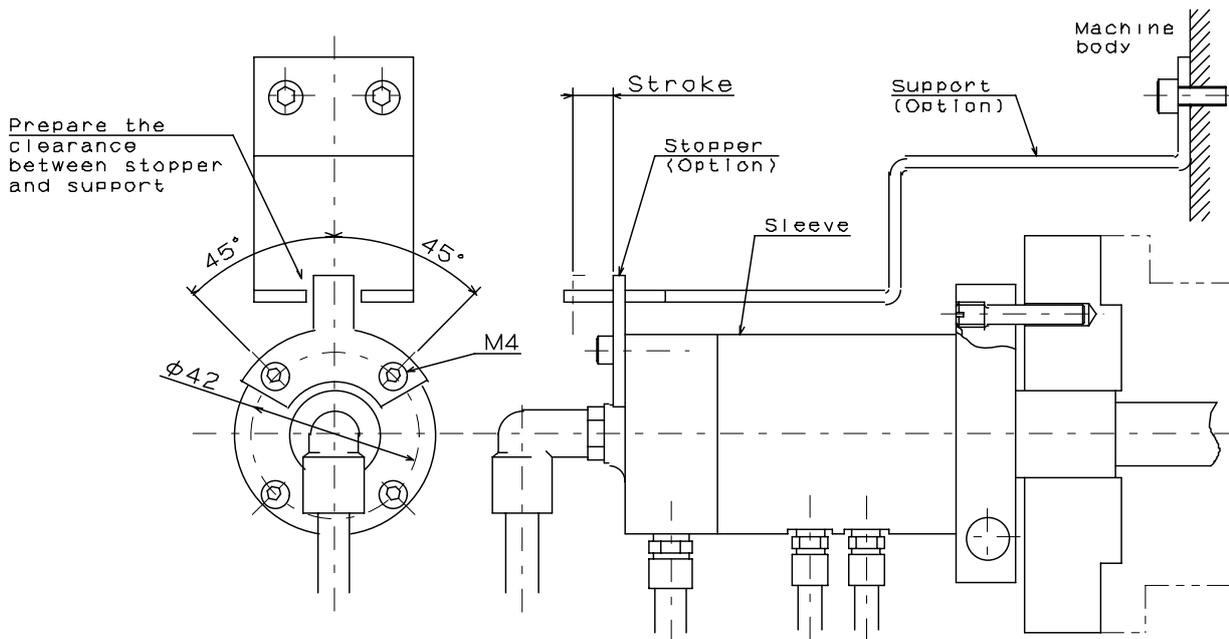

Fig.4
8. Prepare the support for sleeve as shown in Fig.4.
- Ensure a clearance for the sleeve lock as shown in Fig.4. If the sleeve is fixed directly with bolts, etc., the air feed tube gets seized or damaged and air supply to the chuck is interrupted, causing the workpiece to fly out.